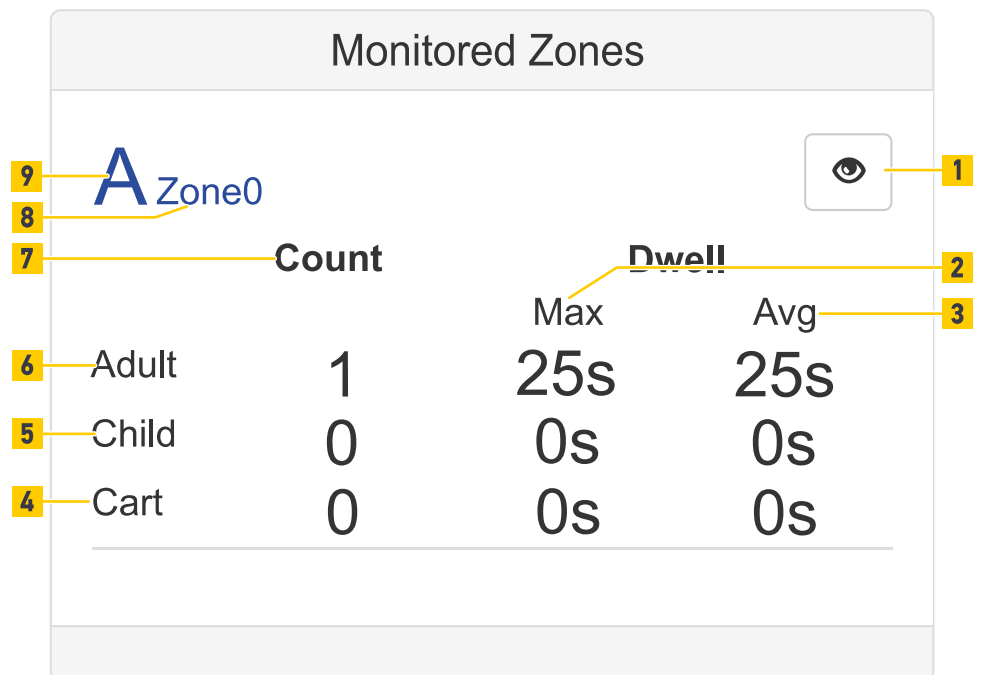

Fig. 79: Counts with 1 monitored zone
- To show or hide the monitored zones in the live view use the button (Fig. 79 /1).
- Displays the maximum dwell time for adults and children (Fig. 79 /2) in the zone.
- Displays the average dwell time for adults and children (Fig. 79 /3) in the zone.
- Information of counts and dwell times for carts (Fig. 79 /5).
- Information of counts and dwell times for children (Fig. 79 /5).
- Information of counts and dwell times for adults (Fig. 79 /6).
- Displays the number of adults and children (Fig. 79 /7) in the zone.
- Configured name of the monitored zone (Fig. 79 /8). The name is used in the user interface as well as in data interfaces.
- Monitored zone identifier (Fig. 79 /9) used in the live view.